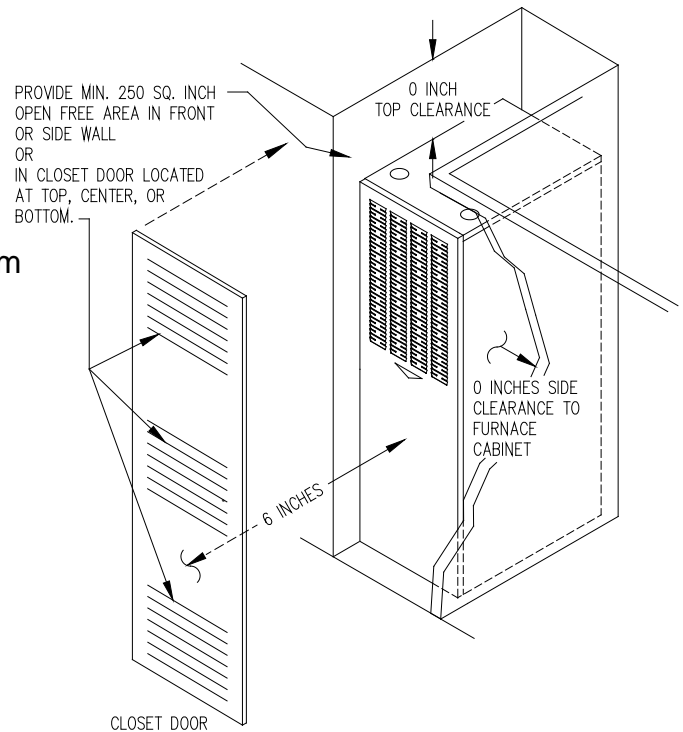

Figure 5.
1. The return air opening into the closet is to have a **minimum** free area of 250 sq. in. (see Figure 5).